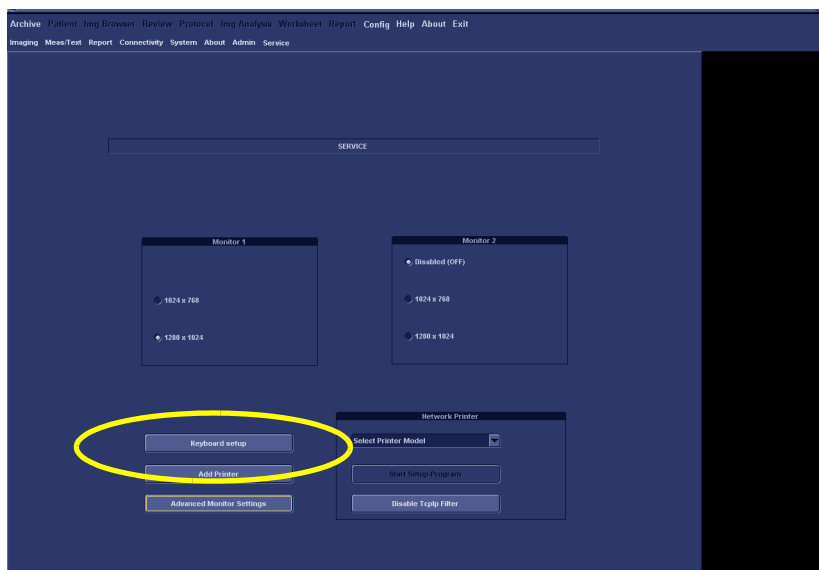
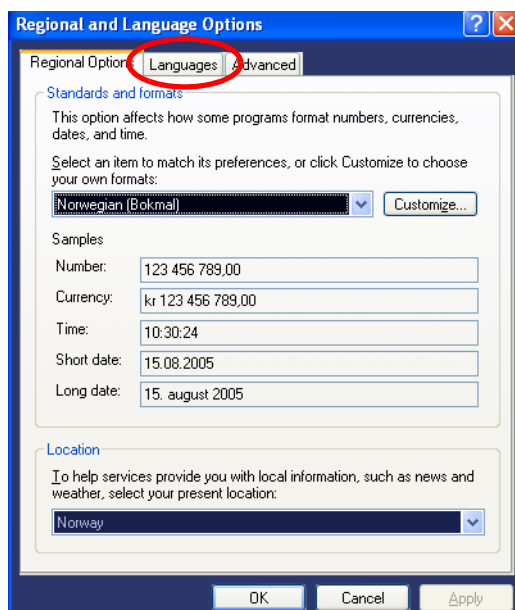

Figure 3-42 Select Keyboard Setup
Figure 3-43 Keyboard Properties
- 1.) Select **Keyboard setup**, see Figure 3-42 "Select Keyboard Setup" on page 3-51, to display the **Keyboard Properties** dialog, see Figure 3-43 "Keyboard Properties" on page 3-51